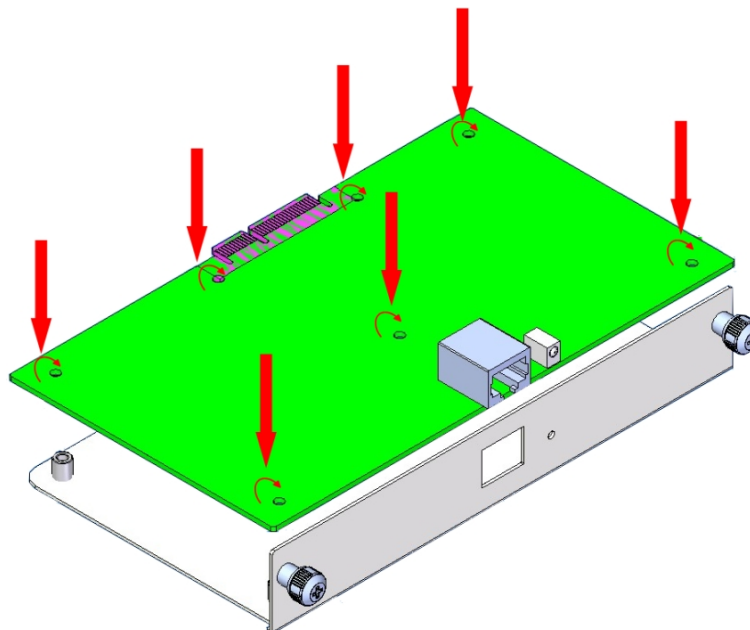

Fig. 8: Installing the expansion card
- (5) If you are using a fixed card, please proceed to the next step. If not, remove the tray from the device and place the card on the tray. Use appropriate screws to affix the card to the tray, being careful not to damage the card when tightening the screws. Please see *Fig. 8* on page 9.